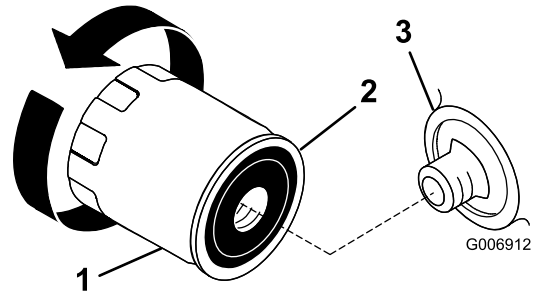

Figure 32
2. Remove the old oil filter and wipe the filter adapter (Figure 32) gasket surface.
3. Apply a thin coat of new oil to the rubber gasket on the new oil filter (Figure 32).
5. Turn the oil filter clockwise until the rubber gasket contacts the filter adapter, then tighten the oil filter an additional 1/2 to 3/4 turn (Figure 32).